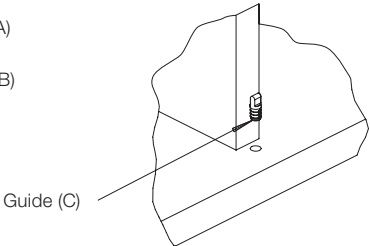

Figure 3
2. (If not factory installed) Using a hammer, insert the press-fit guide(s) (C) into the factory drilled hole(s) on the inside surface of the bottom shelf oriented with the flats of the guide parallel to the front edge of the bottom shelf. (Fig. 3)